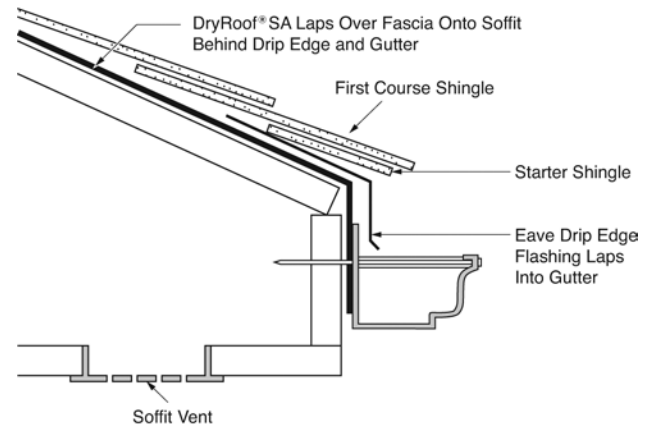

Figure 5-8: Application down the fascia to protect against ice build-up in gutters.
**DEFEATING ICE BUILD-UP IN GUTTERS:** Ice build-up in gutters will often allow meltwater to intrude behind fascia boards. Depending on construction of the eaves, deterioration of soffits or even interior damage can occur that looks like a roof leak. One method to solve this problem is shown in Figure 5-8. Another method is to wrap WinterGuard™ down the fascia onto the soffit, and nail a furring strip to hold WinterGuard tightly in place. This strip also serves as a UV block. Install the gutter in front of the WinterGuard-covered fascia. Then install the drip edge on the eaves over WinterGuard. Make sure the drip edge extends well into the rain gutter as shown in Figure 5-8, so UV rays are prevented from reaching WinterGuard. If the fascia is wider than about 6" WinterGuard must be stopped behind the gutter to prevent exposure to UV. This approach may not be compatible with vinyl fascia systems due to the chemical reaction which may cause the asphalt to bleed onto the vinyl.